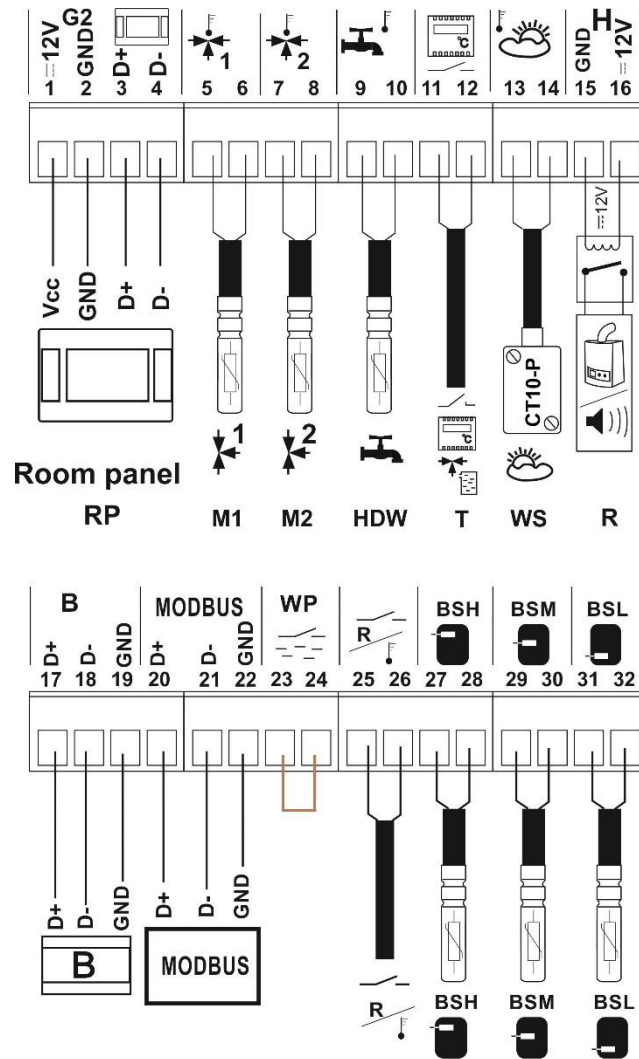

Figure 21. Wiring diagram of sensors and room panel
Connect the appropriate external sensor to the corresponding terminals on the switchboard (see Figure 21) and place the measuring element at the desired location in the heating system. The sensor cable must not be in contact with hot surfaces of the boiler or heating system and must be secured against pulling out.
The sensor is connected by a cable with a minimum cross-section of 0.5 mm2, maximum 25 m long. The polarity of the wires is not important. Connect the free end of the cable to terminals 13-14 (see Figure 21) on the left wall of the controller cabinet.
- connect the Mixer temperature sensor on the left wall of the controller cabinet (see Figure 21)
Connect the thermostat to terminals 11-12 (Figure 21) on the left wall of the controller cabinet. After installation, the room thermostat needs to be enabled in the menu to control the mixed heating circuits: